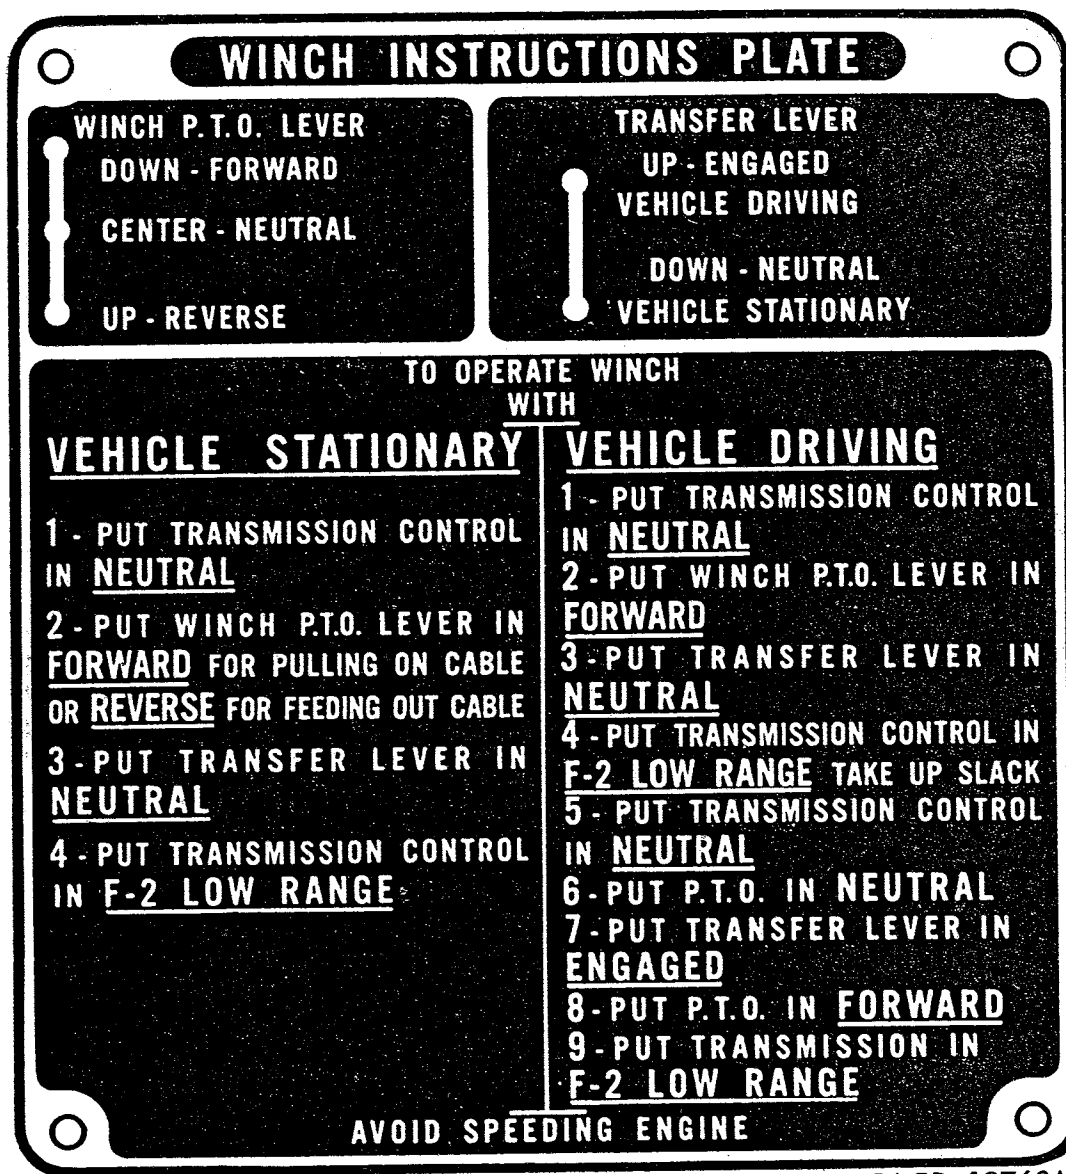

Figure 42. Winch instruction plate.
b. Power-Take-Off Lever. Engagement of the transfer-mounted power-take-off, which drives winch through a drive shaft, is obtained by means of a lever located to right of driver adjacent to transfer lever. The lever operates up and down in a three-position slot. Lever positions are indicated on an instruction plate on lever handle as described in (1), (2), and (3) below.
- (1) *DOWN FORWARD.* With lever in this position, wire rope cable can be wound in on drum.
- (2) *CENTER NEUTRAL.* With lever in center position on *NEUTRAL*, winch is inoperative except when hand-unwinding at winch.
- (3) *UP REVERSE.* With lever in this position, cable can be unwound under load.
c. Winch Instruction Plate (C, fig. 29). Plate (fig. 42) is mounted on instrument board instruction panel directly in front of driver. The plate includes shifting diagrams of winch power-take-off lever and transfer lever. Brief operating instructions are also shown.